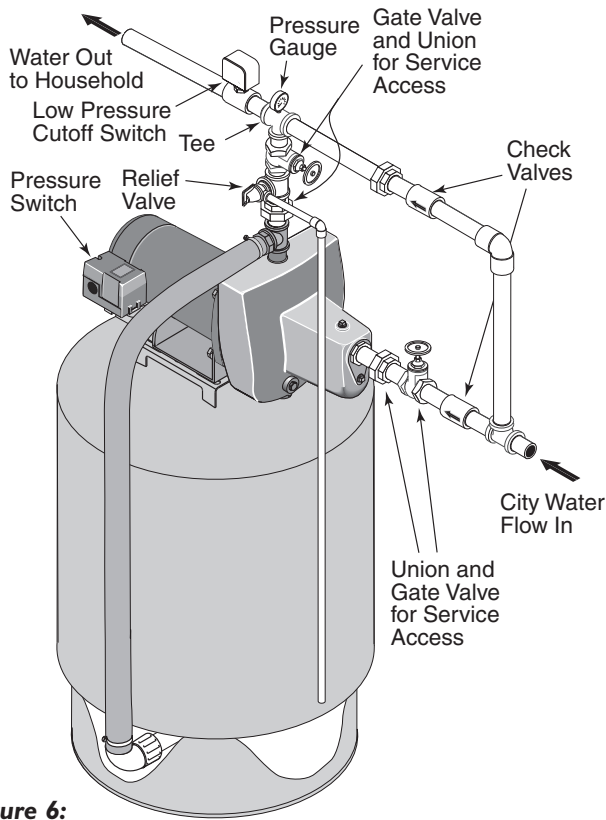

Figure 6:
2. Install pipe as shown (Figures 6 & 7). Be sure to include unions and stop valves so pressure booster unit can be removed for service without interrupting household water supply. A spring loaded check valve ahead of the booster system and a low pressure cutoff switch after it are recommended (You may wish to replace the standard pressure switch with a pressure switch that includes a low pressure cutoff).